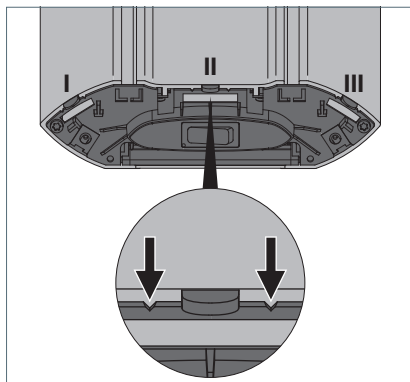

Fig. 1: Preparing the cable bushing.
- ▶ Use pliers to remove the cable bushing cover at the notches in position **I**, **II** or **III**, where you wish the connecting cable to emerge from the luminaire, see Fig. 1